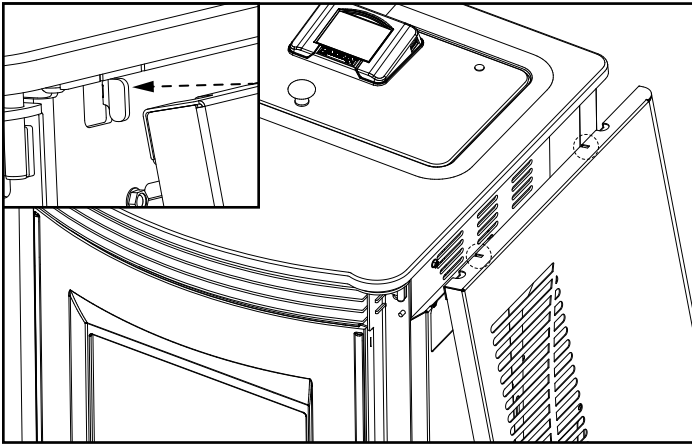

Figure 1
Step 1 - Installing Side Panels: Locate the cut-outs in the top of the panel that marry to the hooks located underneath the cast top. Once in place simply place the bottom of the panel flush against unit. Figure 1.